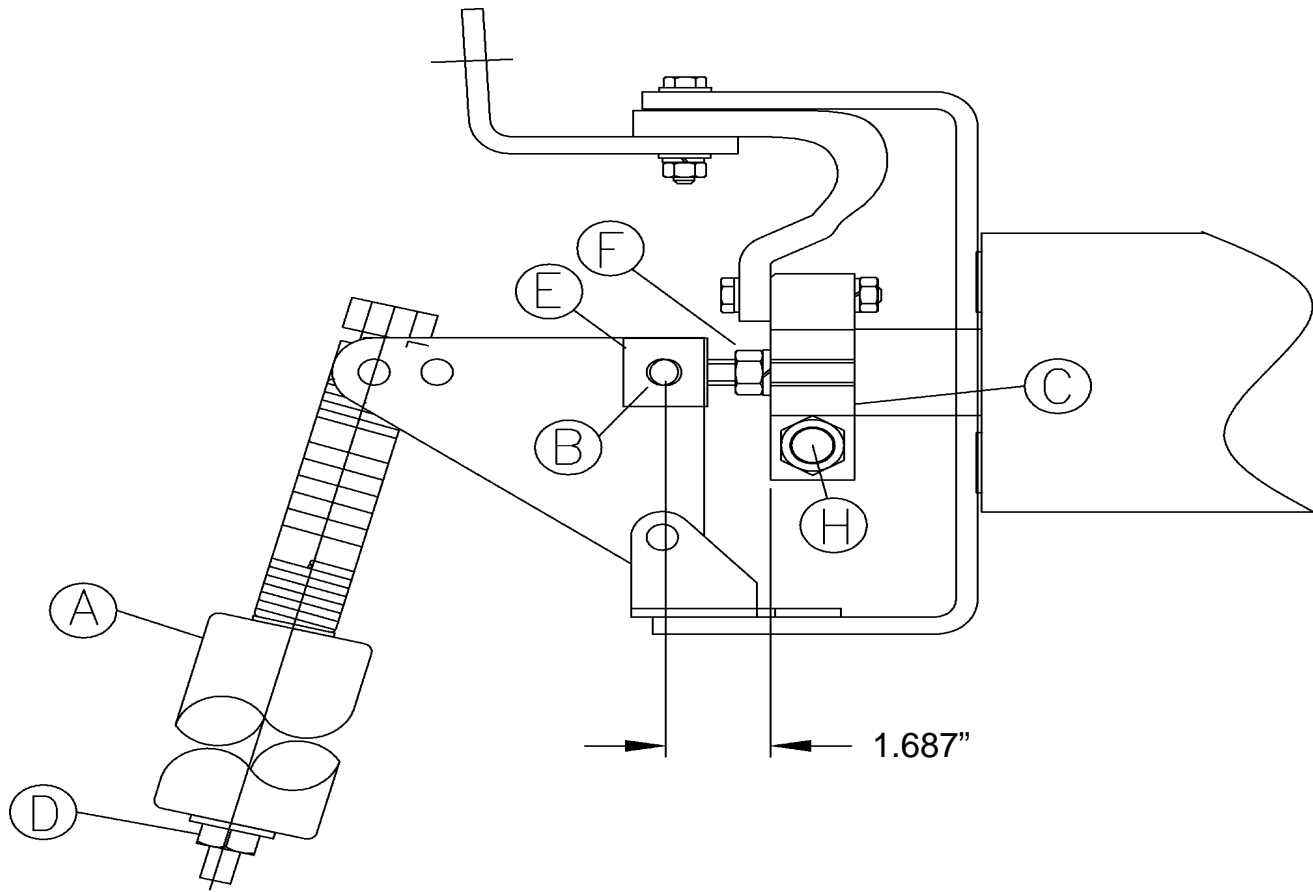

Figure 7. Contact Travel and Over-Travel Adjustment
9.2 Contact Travel and Over-Travel Adjustment (See Figure 7)